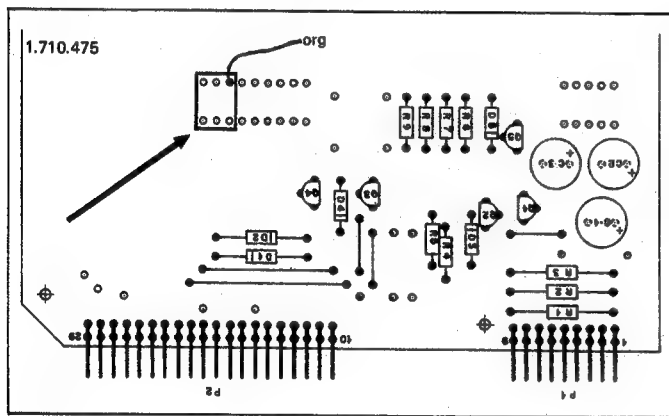

Fig.3.6
- Solder in the 3-pin multipoint connector on the AUDIO LOGIC CONTROL PCB 1.710.475 (Fig. 3.6).